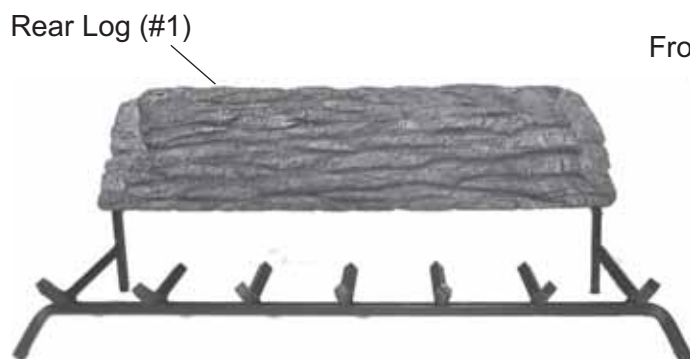

Figure 36 - Centering Rear Log (#1)
2. Center rear log #1 on grate bars and flush with rear of the grate. *See Figure 36.*